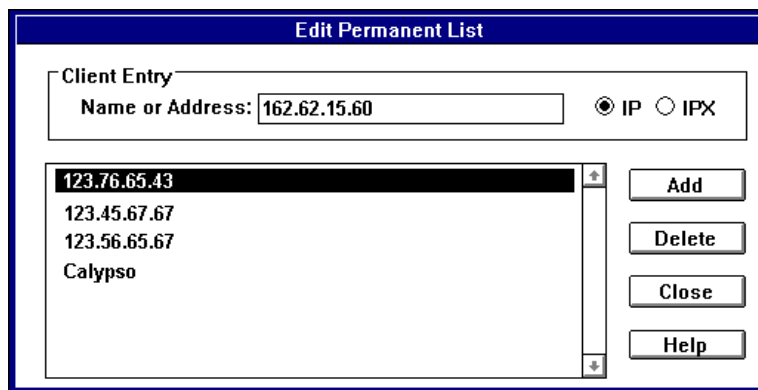

Figure 7-9. Edit Permanent List Dialog Box
- 3 Select **Edit Permanent List**. Enter the server's password when you are prompted to do so. The Edit Permanent List dialog box appears, as shown in Figure 7-9.